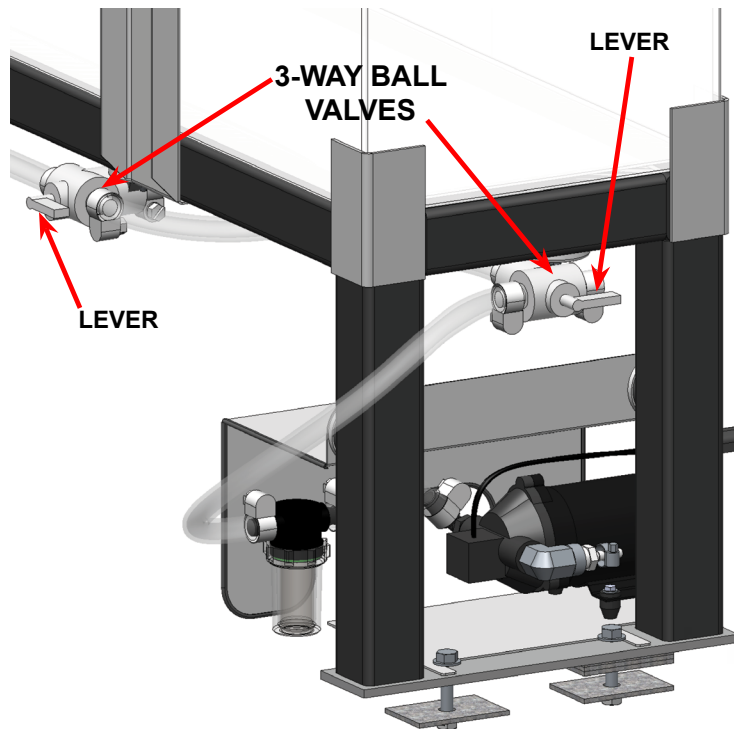

Figure 6. Flex Pump Levers
1. Make sure the 3-way ball valve levers are all in the downward or vertical position (see Figure 6). The levers on the Flex pumps control the direction of the chemical flow. When the levers are in the vertical position, the flow is turned “OFF”.
There are 2 levers on the 35 Gallon/15 Gallon Tank Assembly, one for each tank (see Figure 6). There is 1 lever located on the 3-way ball valve on the 50 Gallon Tank Assembly (see Figure 7).